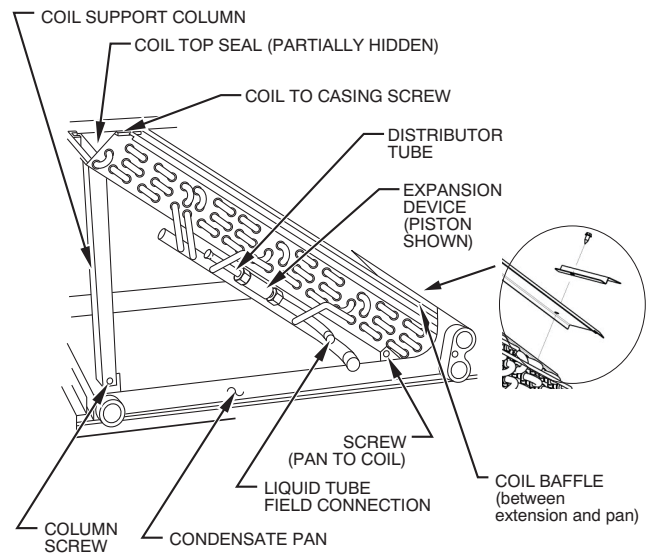

Fig. 30 – Slope Coil Component Location (Prior to 1996)
8. Place assembly on a flat surface. On units manufactured prior to 1996, remove two screws securing coil support columns to pan. (See Fig. 30.)
10. Remove two screws securing coil to condensate pan. (See Fig. 30 and 31.)
12. Attach new painted Top Seal to new coil using brass colored screws included with packaging. (See Figs. 30 and 31)
13. Remove screw at bottom of coil extension and reuse to attached Coil Baffle in same location. Long side of baffle toward pan. (See Figs. 30 and 31)
15. Install new coil pan assembly into unit and secure with one screw previously removed from unit casing. (See Fig.30.)